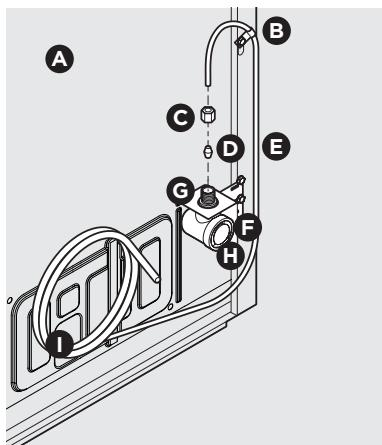
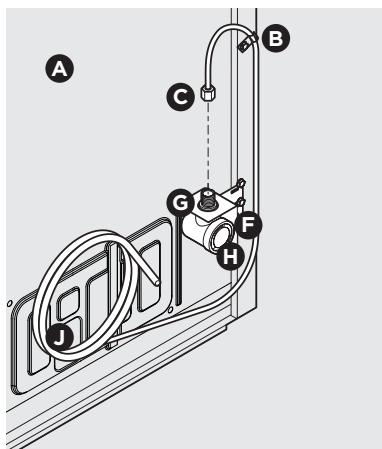

Figure 1
Figure 2
4. If you use **copper tubing** - Slide the brass compression nut, and then the ferrule (sleeve) onto the water supply line. Push the water supply line into the water valve inlet as far as it will go (1/4"/6.4 mm). Slide the ferrule (sleeve) into the valve inlet and finger tighten the compression nut onto the valve. Tighten another half turn with a wrench; DO NOT overtighten. See Figure 1.
If you use **braided flexible stainless steel tubing** - The nut is already assembled on the tubing. Slide the nut onto the valve inlet and finger tighten the nut onto valve. Tighten another half turn with a wrench; DO NOT overtighten. See Figure 2.
B	Steel Clamp (Fig. 1: 1/4"; Fig. 2: 1/2")